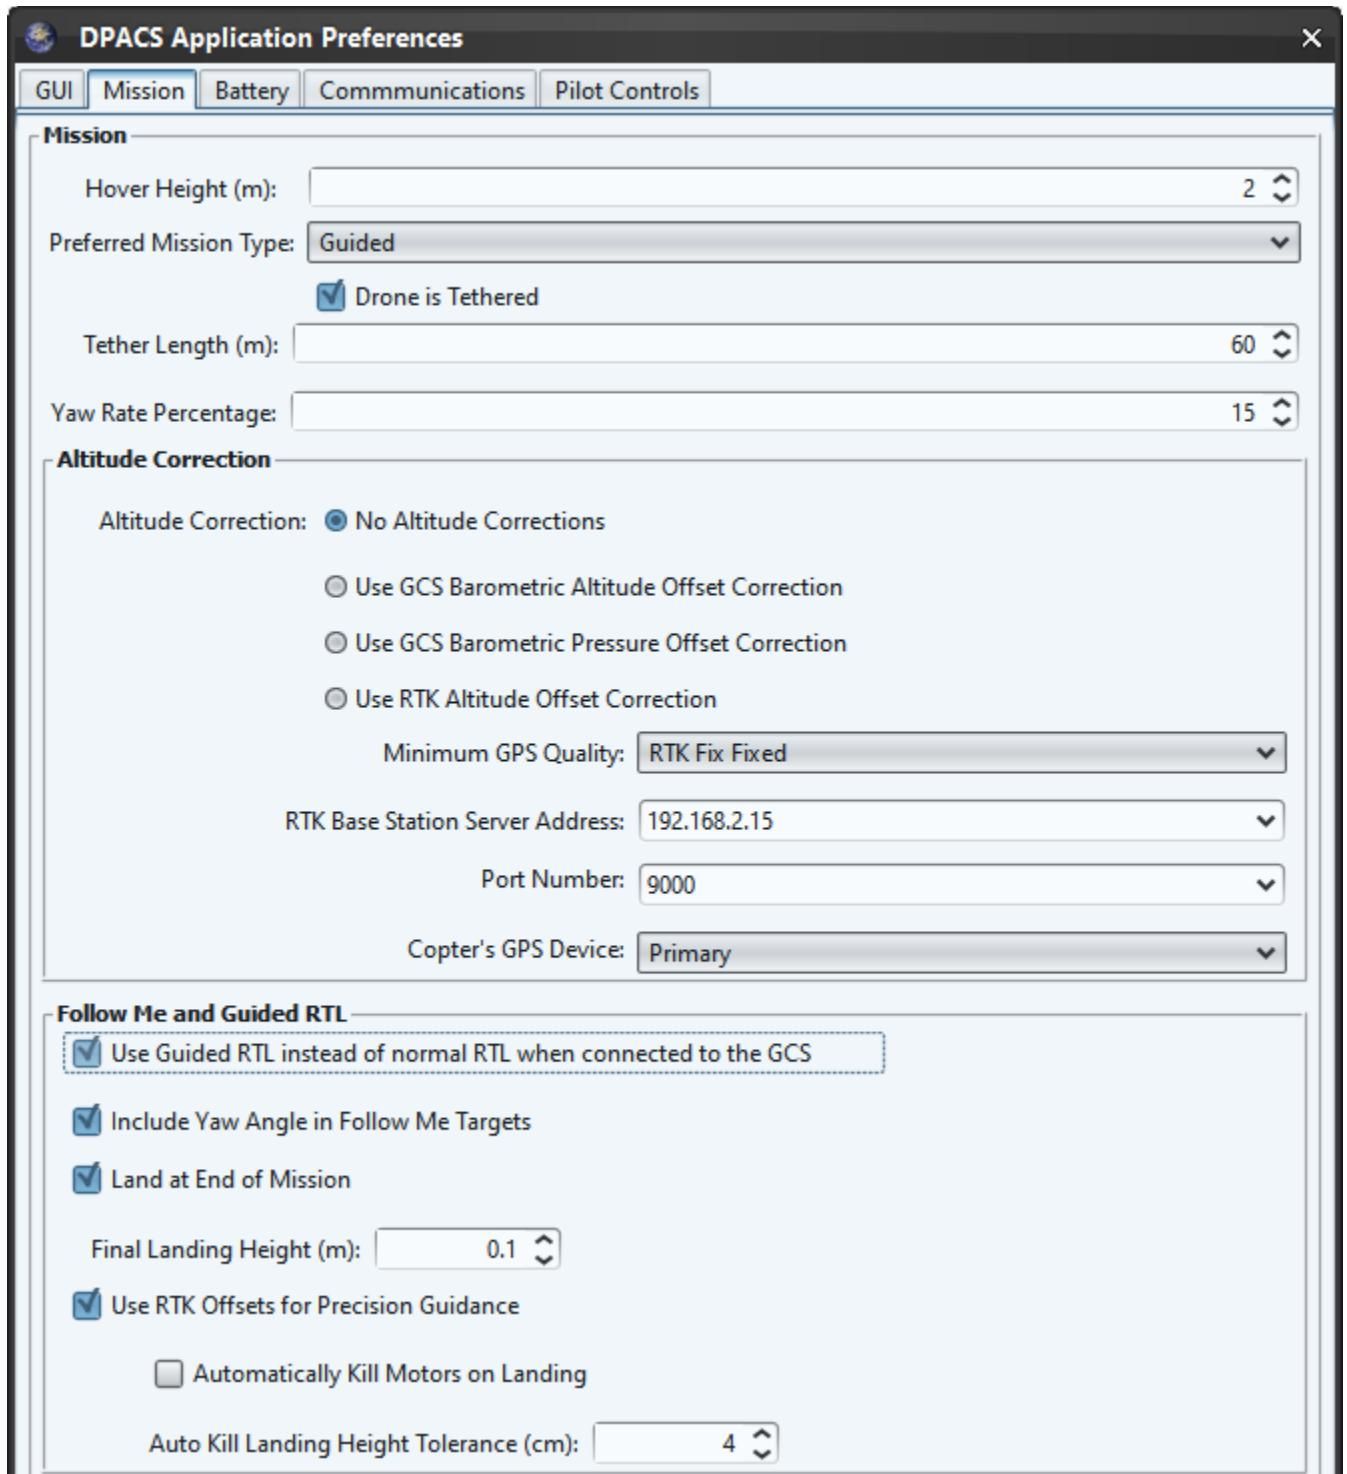

Figure 45 – Enabling Guided RTL and RTK Offset for Precision Guidance
6. A special mode called Guided RTL is used instead of RTL for follow me missions. This mode guides the drone to the original takeoff orientation relative to the GCS box on the vehicle during landing. RTL would return to the original takeoff location. Guided RTL is enabled by selecting the “Use Guided RTL instead of normal RTL when connected to the GCS” preference in the DPACS preferences shown in Figure 45. The 2 cm accurate RTK offset solution will also be used for precision follow me and Guided RTL if the “Use RTK Offsets for Precision Guidance” is selected in the DPACS preferences also shown in Figure 45.